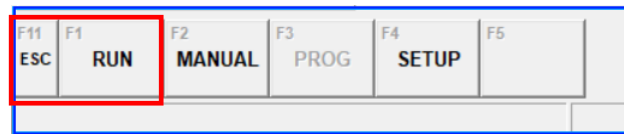

Figure 49 - ESC and RUN buttons
7. Exit the “PROG” page (by pressing the “ESC” button) and enter the GUI “RUN” page (by pressing the “RUN” button) at the bottom of the GUI screen. See (*Figure 49 - ESC and RUN buttons*).